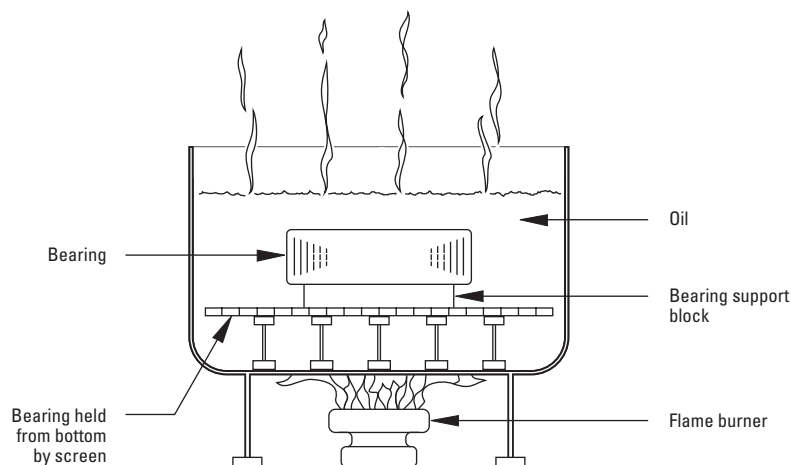

Fig. 5. Heat expansion method.
- Accomplished by heating the bearing in a tank of oil that has a high flash point (see fig. 5).
- The oil bath is shown in fig. 5. The bearing should not be in direct contact with the heat source.